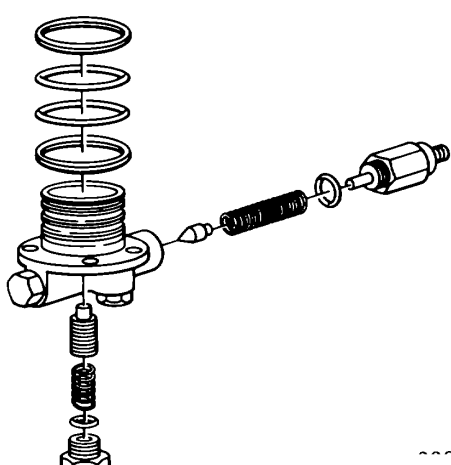

Figure 229.
C-1 Install O-rings (52) and back up rings (51) being certain that they are installed in the manner illustrated Install new O-ring (46). See Figs 229 and 235.
C-4 Install high pressure relief valve pilot (13), spring (11), inner spring seat (10), and a new O-ring (6) See Fig. 229.